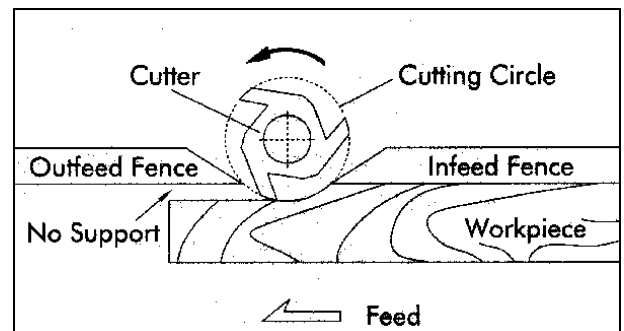
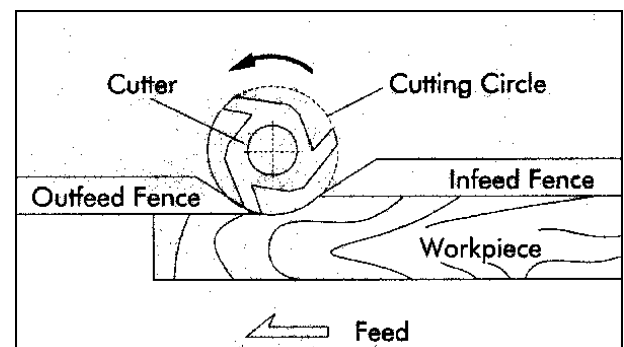

FIGURE 33
FIGURE 34
2. When the shaping operation removes the entire edge of the stock, e.g. in jointing or making a full bead, the shaped edge will not be supported by the outfeed fence when both fences are in line, as shown in Figure 33. In this case, the stock should be advanced to the position shown in Figure 33 and stopped. The outfeed fence should then be moved forward to contact the work, as shown in Figure 34. The outfeed fence will then be in line with the cutting circle, and the operation can continue.